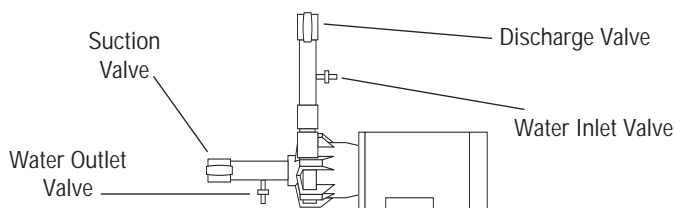

Figure 3
**IMPORTANT:** To protect the pump if prime is lost, use one of the following: (1) pressure switch on the discharge; (2) vacuum switch on the suction; (3) a motor minder to monitor motor current.
10. When pumping liquids which may solidify or crystallize, a flush system should be added to the piping. See Figure 3. Install water inlet and outlet valves as shown.